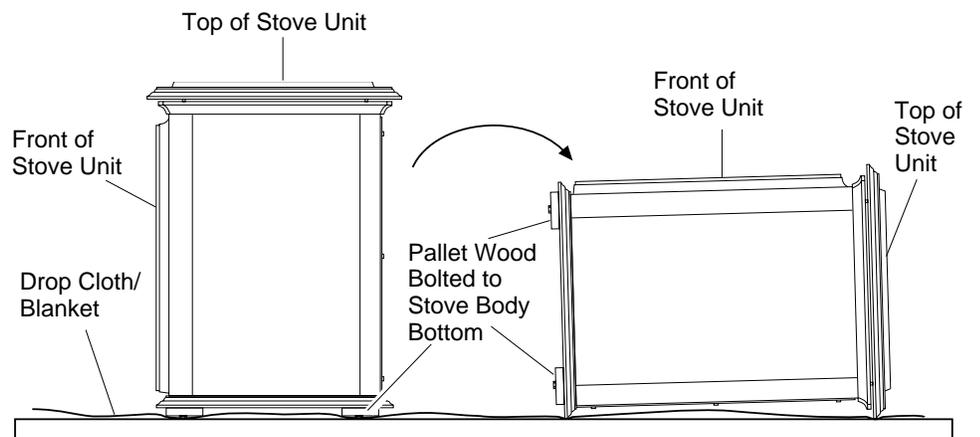

Figure 6 - Laying Down Stove On Back (Stove Style May Vary Depending on Model)
- (1) - Hardware kit bag with fasteners
6. Carefully lay stove body on back to attach bottom components to stove body (see Figure 6). Rest stove on drop cloth or blanket to avoid scratching stove edges.